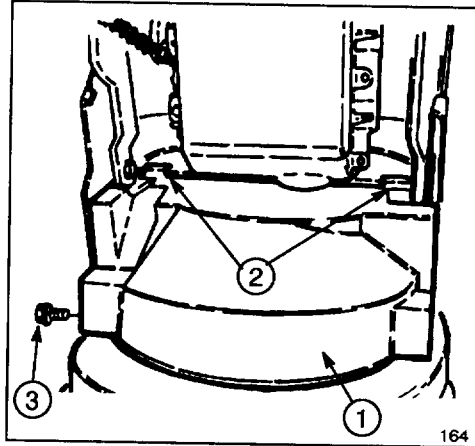

Figure 2
4. Secure auger housing to engine frame with (6) 5/16-18 x 3/4" lg. flange head capscrews.
7. Mount lower belt cover to underside of auger housing and engine frame with (2) 1/4-20 x 1/2" lg. flange head capscrews (Fig. 2). Make sure belt cover mounting tabs are positioned to rear of engine frame member.